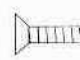

**Fig. 105**
□ **Figs. 105, 106 & 107** Now go back to bag #F of the transmission and remove the four #7673 4-40 x 5/16" FHSScrews. Fig. 105 shows the four screws installed through the chassis. Now mount the transmission to the chassis as shown in fig. 106. Do not completely tighten the four screws yet. Now take the two #7672 4-40 x 7/8" FHSScrews from bag #7-16. We are going to install these screws through the chassis first as shown in fig. 107. You can now go ahead and tighten all six transmission mounting screws.